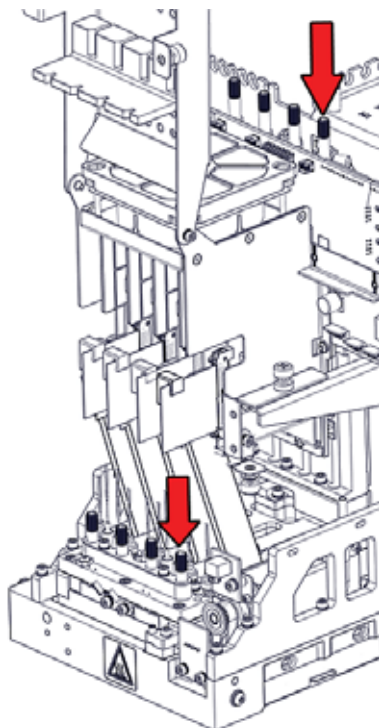

Figure 4-89 Releasing the print head
19. Tighten the upper and lower screws that secure the print head in the print block (see Figure 4-89 on the previous page).